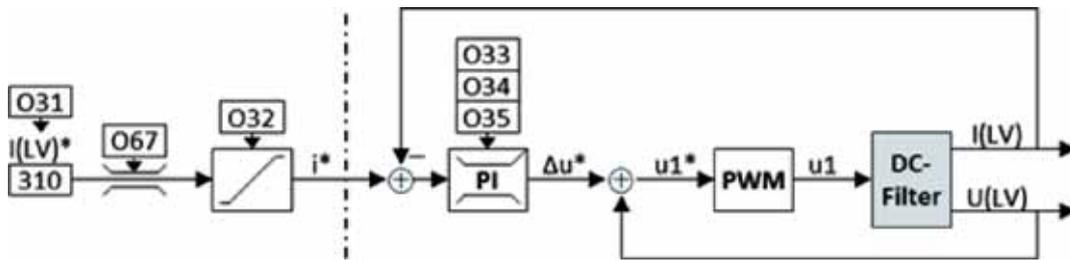

Fig. 26 Block diagram of DCU low side DC-current controller I (LV).
5.1.3 DCU low side DC-current controller I (LV)
The block diagram of the DCU low side DC-current I (LV) controller is shown in Fig. 26.